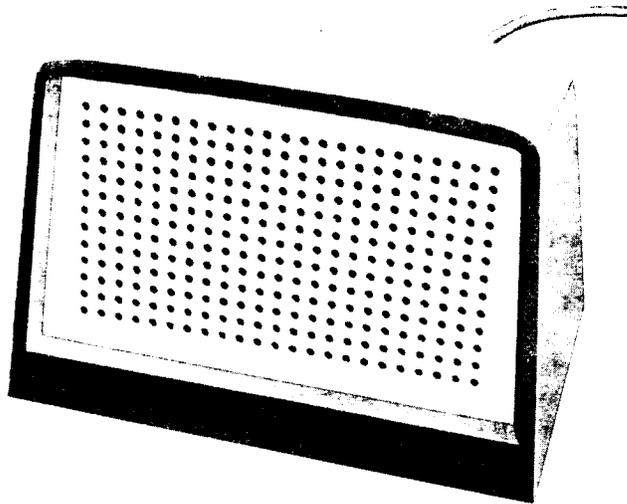

Fig. 5—760A Loudspeaker
2.14 The **760A** loudspeaker (Fig. 5) is intended for desk or table top mounting and is used with the 3A speakerphone system. It is 5-5/8 inches long, 3-11/16 inches wide, and 3-15/16 inches high. Refer to Sections 512-620-100, 512-620-101, 512-620-200, and 512-620-400 for other information and use of the 760A loudspeaker in the 3-type speakerphone system.